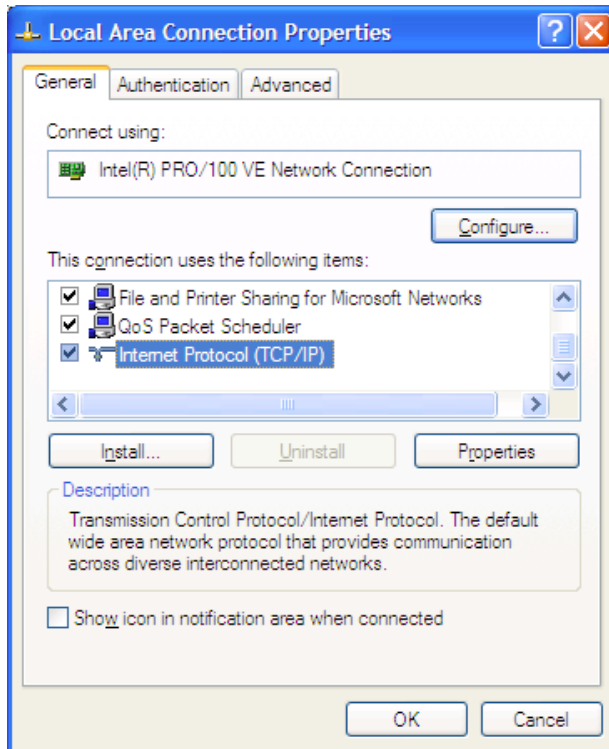
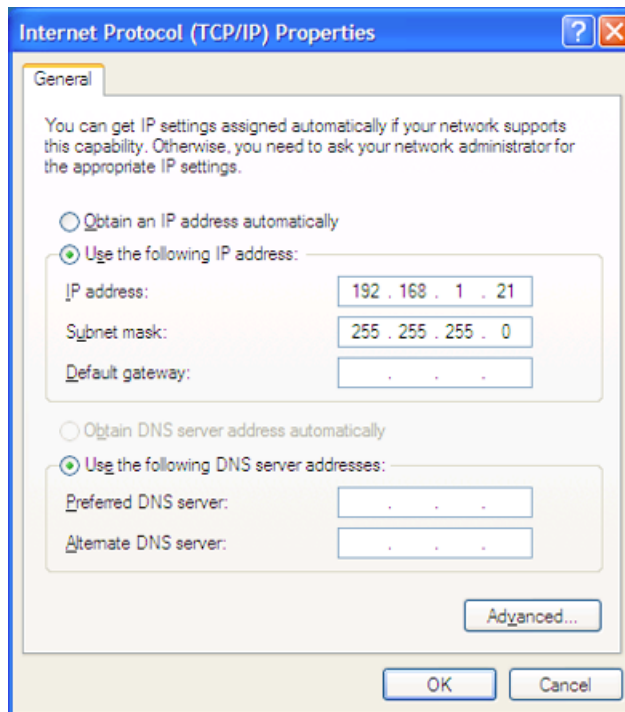

Figure 5. The Local Area Connection Properties Dialog
Figure 6. The Internet Protocol Properties Dialog
3. In the **Local Area Connection Status** dialog box, click the **Properties** button. The **Local Area Connection Properties** dialog box appears, as shown in Figure 5.
- In the panel labeled **This connection uses the following items:**, select the **Internet Protocol (TCP/IP)** item to highlight it, and click the **Properties** button (see Figure 5 for an example). The **Internet Protocol (TCP/IP) Properties** dialog box appears, as shown in Figure 6.